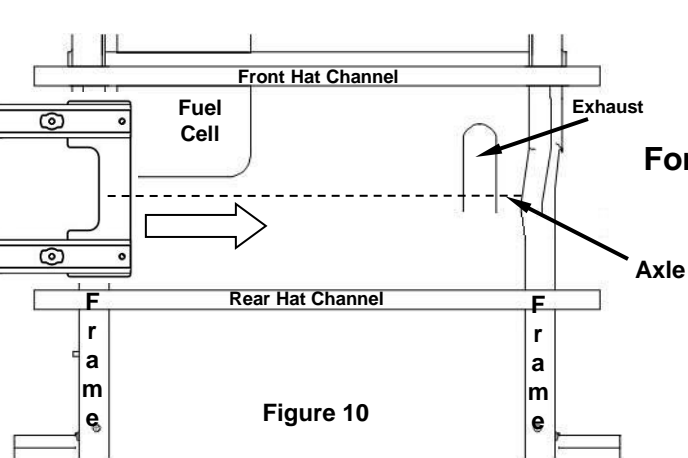

Figure 10
- Insert base rails as shown in the following steps (**Figures 10 through 13**). Refasten truck bed bolts after rails are inserted. Torque bed bolts to 75 ft. lbs.